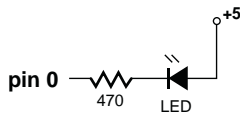

Figure 1. An implicit END instruction makes the LED blink.
In figure 1, an LED is wired so that it lights when a low (0) appears on pin 0. Suppose you wrote a program that consisted of just the following line: